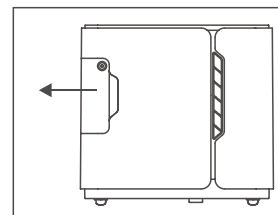

Figure 8
- (1) Pull out the humidifier as the direction in Figure 8.